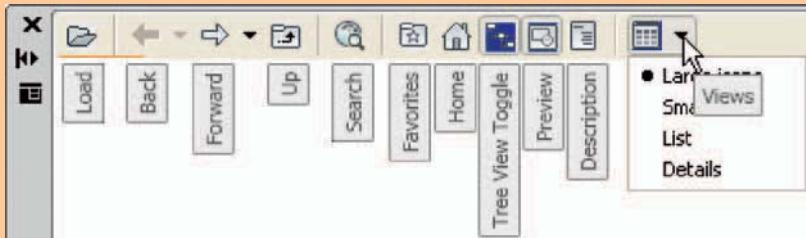

Fig. 9.11 The icons at the top of the DesignCenter palette
- Clicks* on one of the three icons at the top-right corner of the palette (Fig. 9.11) have the following results: